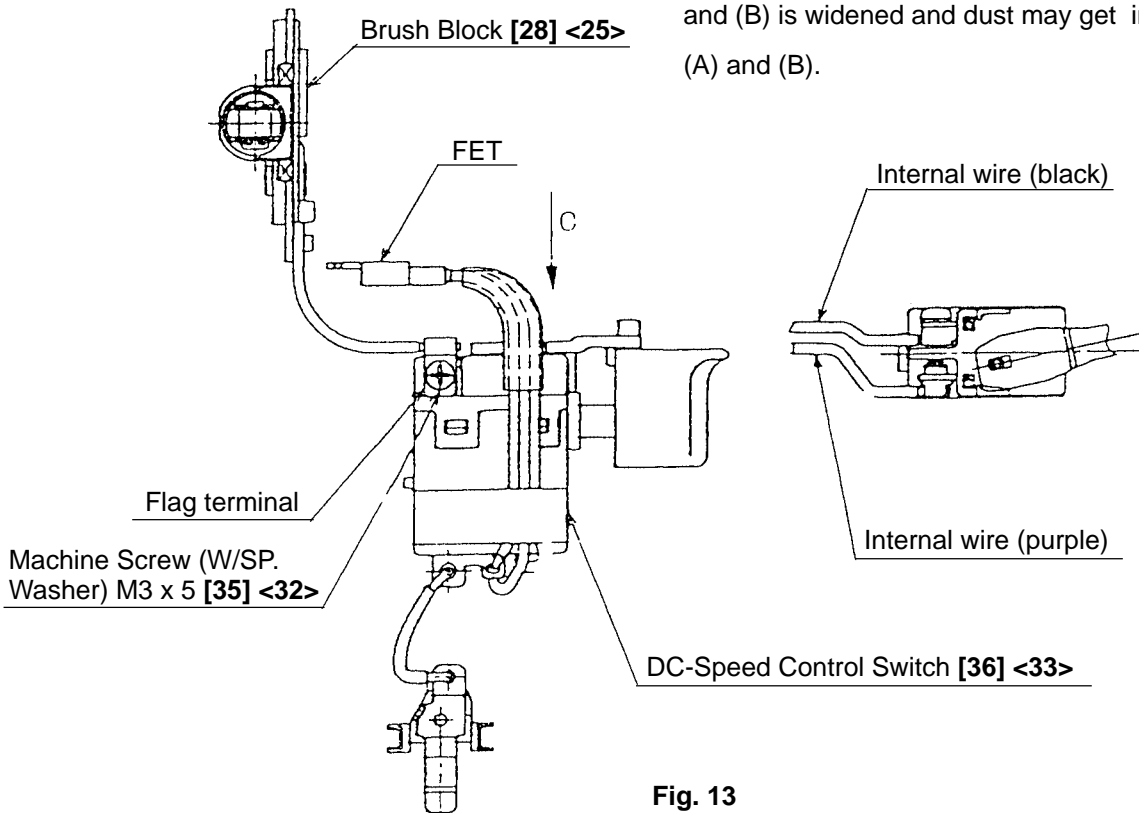

Fig. 13
(1) Reassembly of the housing assembly
- Be sure to follow the wiring diagram (Fig. 13) for proper wiring.
- When connecting the internal wires of the Brush Block [28] <25> to the DC-Speed Control Switch [36] <33>, fasten them with the Machine Screw (W/SP. Washer) M3 x 5 [35] <32> paying attention to the direction of the flag terminal (Fig. 13).